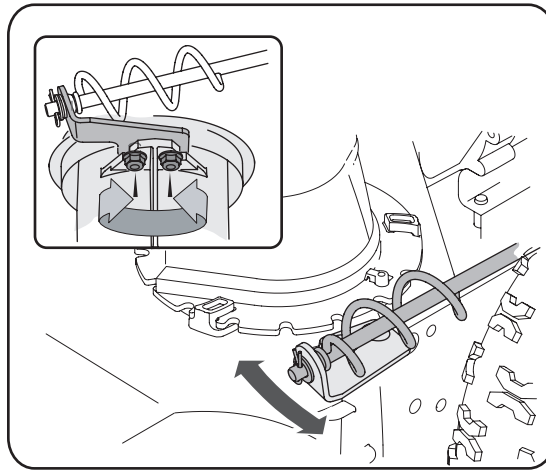

Figure 19
1. Loosen the two nuts which secure the chute bracket and reposition it slightly. See Figure 19.
1. Disconnect the chute crank assembly at the discharge chute end by removing the hairpin clip and the flat washer. See Figure 19.